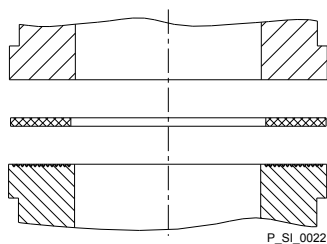

Fig. 16: Elastomer flat seal for a smooth insert
- In the event that an unflared insert is used (e.g. third party part), use an elastomer flat seal - see Fig. 16.